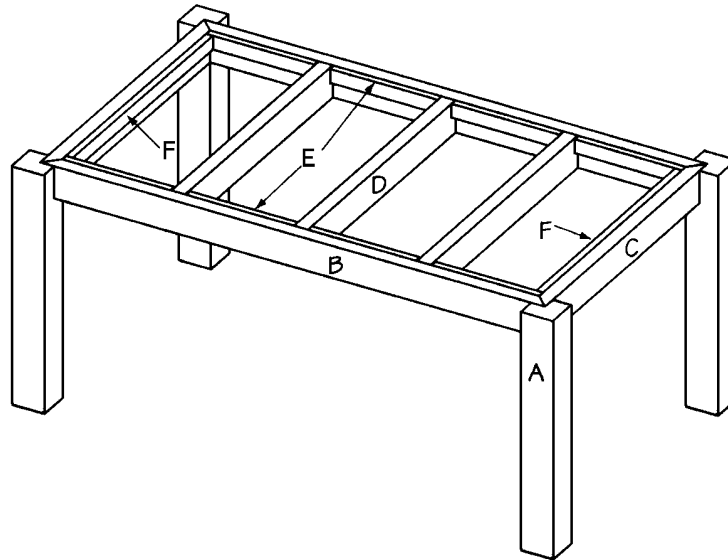

*Figure 5*
1. Cut three center supports (D) from 2 x 4 pine, each measuring 28 inches long.
2. Fit the 3 center supports (D) between the two long sides (B), edge up, approximately 11-7/8 inches apart, as shown in *Figure 5*. Apply glue to the meeting surfaces and screw through the long sides (B) into the ends of the inner supports (D). Use two 2-1/2-inch-long screws on each joint.
3. Cut eight short inner supports (E) from 1 x 2 pine, each measuring 11-7/8 inches long.